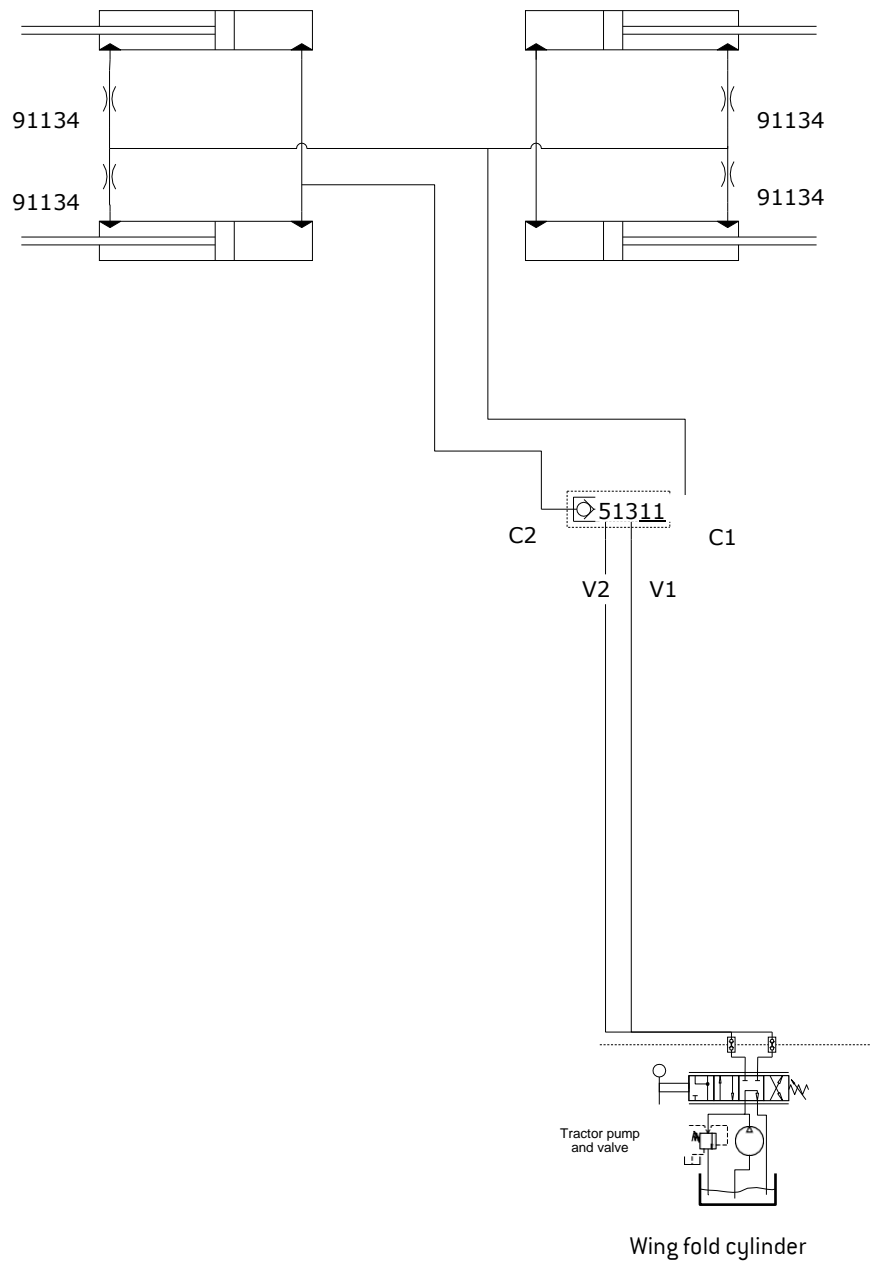

Figure 17
Replacement of harrow tines is performed as shown (B), figure 17.